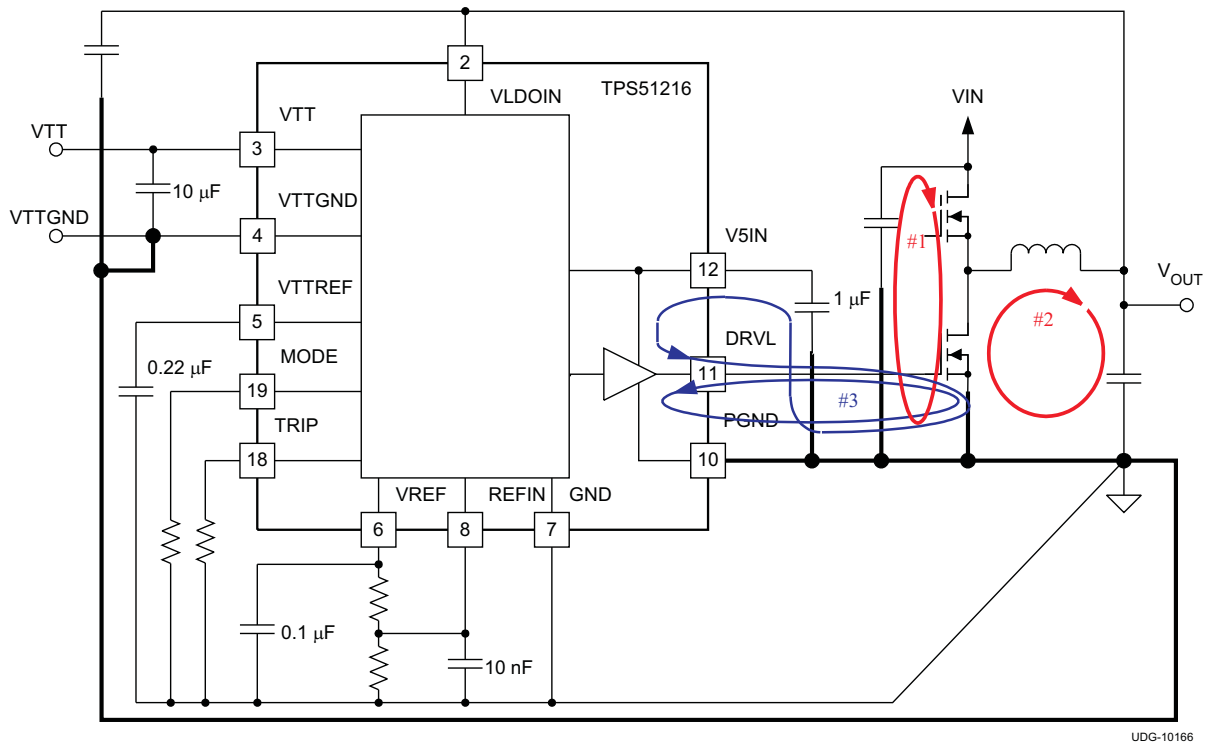

Figure 34. DC/DC Converter Ground System
- The most important loop to minimize the area of is the path from the VIN capacitor(s) through the high and low-side MOSFETs, and back to the capacitor(s) through ground. Connect the negative node of the VIN capacitor(s) and the source of the low-side MOSFET at ground as close as possible. (Refer to loop #1 of Figure 34)
- The second important loop is the path from the low-side MOSFET through inductor and VOUT capacitor(s), and back to source of the low-side MOSFET through ground. Connect source of the low-side MOSFET and negative node of VOUT capacitor(s) at ground as close as possible. (Refer to loop #2 of Figure 34)
- The third important loop is of gate driving system for the low-side MOSFET. To turn on the low-side MOSFET, high current flows from V5IN capacitor through gate driver and the low-side MOSFET, and back to negative node of the capacitor through ground. To turn off the low-side MOSFET, high current flows from gate of the low-side MOSFET through the gate driver and PGND, and back to source of the low-side MOSFET through ground. Connect negative node of V5IN capacitor, source of the low-side MOSFET and PGND at ground as close as possible. (Refer to loop #3 of Figure 34)